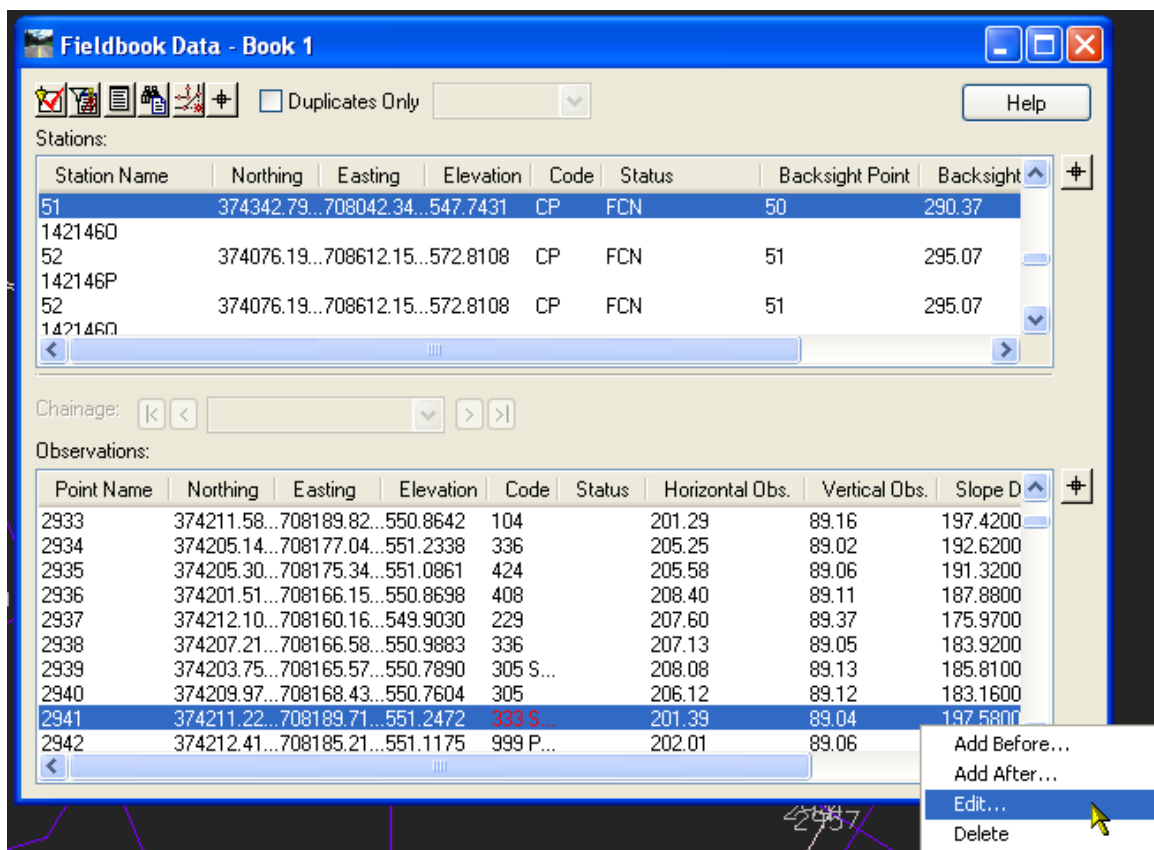

Figure 3-4 InRoads Fieldbook Data Dialog Box - Fixing Code Errors
- F. The Fieldbook Data dialog will display again with the point 2941 selected. Notice that the code is red. This indicates that there is a code error and the system does not recognize the code that was used in the field. Right Click on the hi-lighted line in the Observations area (as shown in Figure 3-4) and select **Edit**.